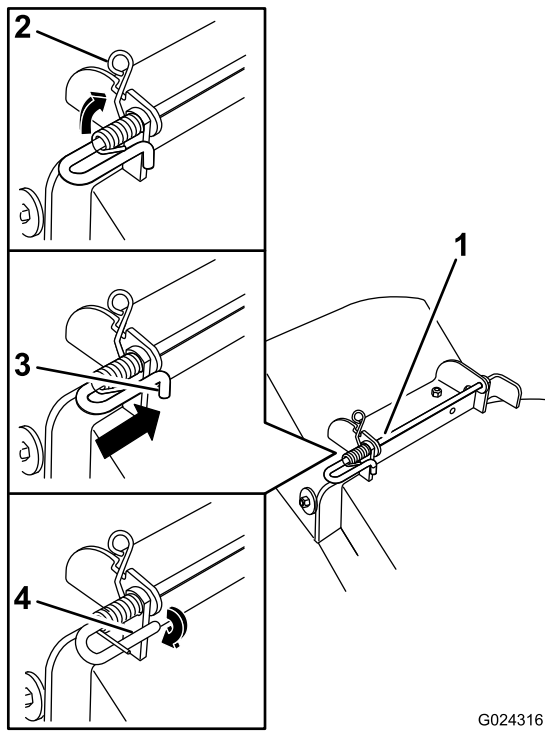

Figure 69
5. Lift the loop end of the spring and place it into the notch on the deflector bracket (Figure 69).
6. Secure the rod and spring assembly by twisting it so the short end of the rod can be placed behind the front bracket welded to the deck (Figure 69).